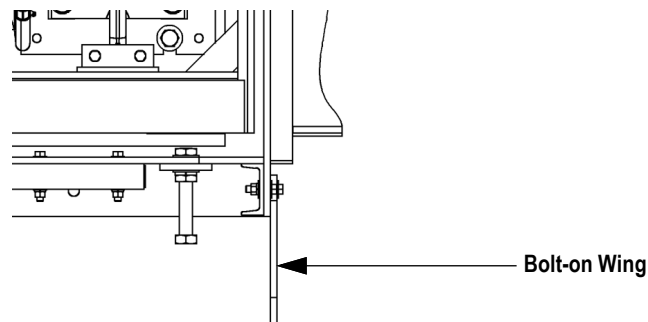

Figure 2-8. Bolt-on Wing
11. Install bolt-on wings (shipped on pallet). See Figure 2-8.